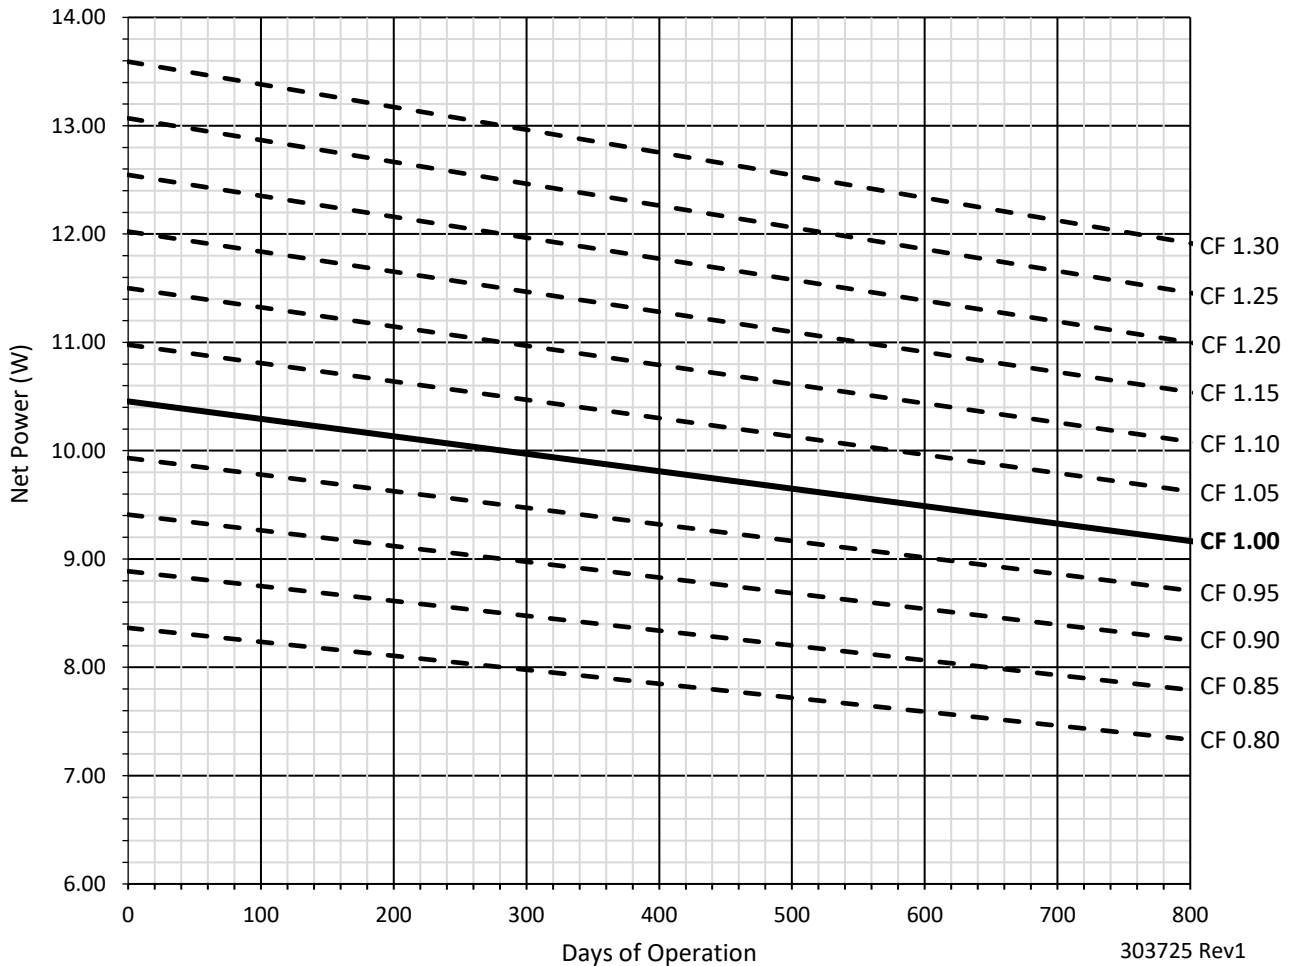

Figure 24 – Sentinel Net Power vs. Days of Operation
3. Refer to Figure 24, follow the correction factor line that is most relevant to factor calculated in step 1 until it crosses the power requirement for your site. The x-axis value at this intersection will be the number of days of operation before a catalyst cartridge replacement will be required. For